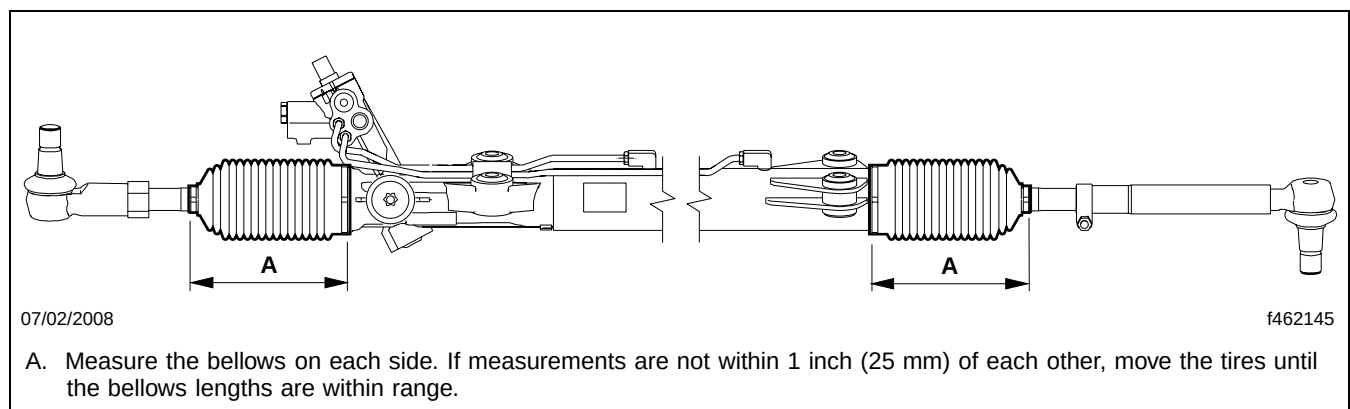

Fig. 10, Measuring the Tie Rod Bellows
34.1 Measure the length of the bellows from clamp to clamp on each side of the gear. See **Fig. 10**. If measurements are not within 1 inch (25 mm) of each other, move the tires until the bellows lengths are within range.